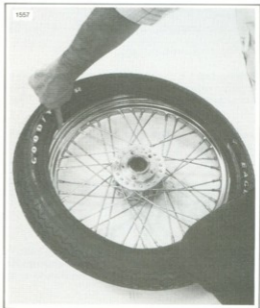

Figure 2-35. Starting Bead on Rim
6. See Figure 2-35. Starting at the valve stem, start the first bead into the rim well. Work the bead on as far as possible by hand. Be careful not to pinch the tube. Use the tire tool to pry the remaining bead over the rim flange. The colored dot on the sidewall is a balance mark and should be located next to the valve stem hole.